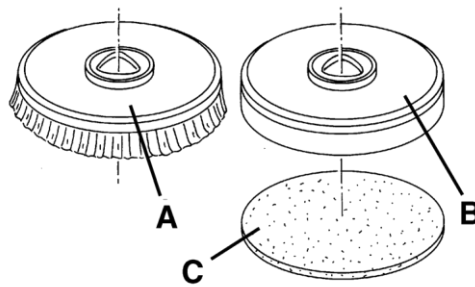

Figure 3
1. According to the kind of cleaning to be performed, the machine can be equipped either with brushes (A, Fig. 3) or pad-holders with pads (C) together with the appropriate deck.
2. Press the switch (66) to start the machine.
3. Turn the speed adjuster (4) to idle by turning it counter-clockwise.
4. Place the brushes (A) or the pad-holders (B) under the deck (18).
5. Lower the deck on the brushes/pad-holders by pressing the switch (61).
6. To engage the brushes/pad-holders, press the drive paddle (3) and then release it. If necessary, repeat the procedure until the brushes/pad-holders are engaged.
**Turn the speed adjuster (4) counter-clockwise to run the machine at idle speed. Do not press the paddle (3) completely, otherwise the machine will start moving.**
7. To remove the brushes/pad-holders, the deck must be lifted by pressing the switch (61), then press the switch (67) and wait for the brush/pad-holder to fall on the floor.
8. Press and hold the switch (66) for nearly a second to turn off the machine.